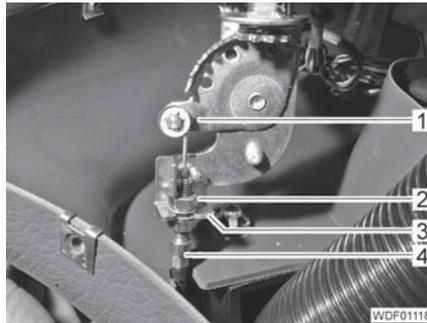

Fig. 401 Top fixing of Bowden cable
- Undo the nut (Fig. 401,2).
- Disconnect the Bowden cable (Fig. 401,4) from the operating part (Fig. 401,1).
- Remove the Bowden cable to the side from the holder (Fig. 401,3).
- Insert the Bowden cable (Fig. 401,4) from the side into the holder (Fig. 401,3).
- Connect the Bowden cable to the operating part (Fig. 401,1).
- Tighten the nut (Fig. 401,2) with washer.